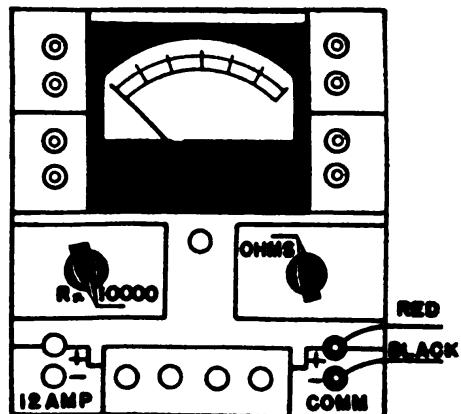

FIG. 6D: R x 1, R x 100,
a. See figure 6D and table II for switch positions and jack connections and proceed as follows:
- (1) Set the circuit selector switch to OHMS position.
- (2) Set the range selector switch as follows: